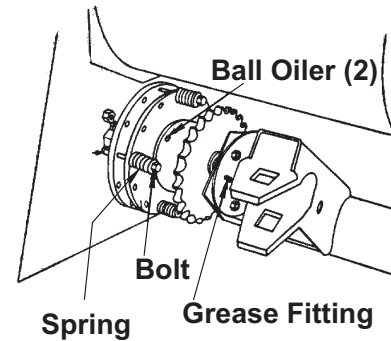

Figure 5-17. Pickup Clutch
- A. Six belt configuration: Adjust to obtain a 3/8" deflection when a 15 to 19 lb. force is applied at the center of the span length (see Figure 5-17). Check each of the six drive belts separately.
- B. Power band configuration (2 belt): Adjust to obtain 3/8" deflection when a 45-57 lb. force is applied at the center of the span length (see Figure 5-17). Check each power band separately.